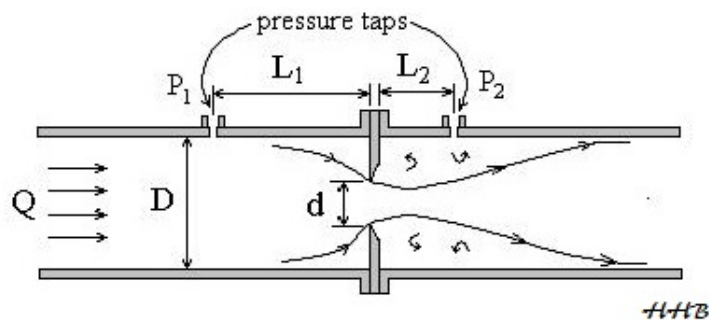
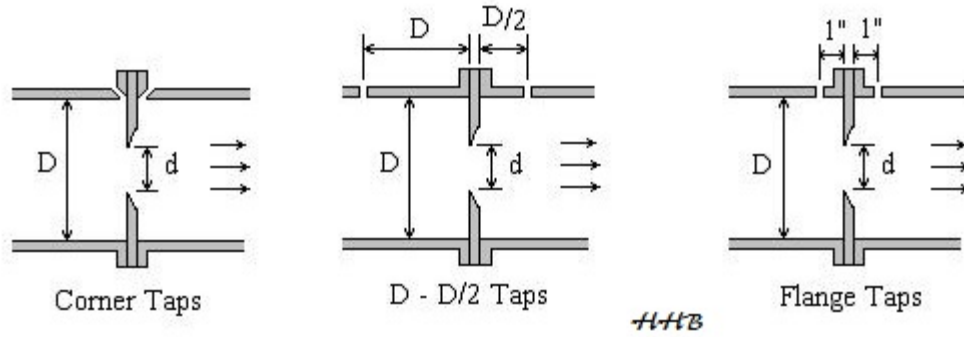

Figure 2. Orifice Meter Parameters
Figure 3. ISO standard orifice meter pressure tap locations
**Orifice Meter:** The orifice meter is the simplest of the three differential pressure flow meters. It consists of a circular plate with a hole in the middle, typically held in place between pipe flanges, as shown in Figure 2.
The preferred locations of the pressure taps for an orifice meter have undergone change over time. Previously the downstream pressure tap was preferentially located at the vena-contracta, the minimum jet area, which occurs downstream of the orifice plate, as shown in Figure 2. For a vena-contracta tap, the tap location depends on the orifice hole size. This link between the tap location and the orifice size made it difficult to change orifice plates with different hole sizes in a given meter in order to alter the range of measurement. In 1991, the ISO-5167 international standard came out, in which three types of standardized differential measuring pressure taps were identified for orifice meters, as illustrated in Figure 3 below. In ISO-5167, the distance of the pressure taps from the orifice plate is specified as a fixed distance or as a function of the pipe diameter, rather than the orifice diameter as shown in Figure 3.
In ISO-5167, an equation for the orifice coefficient,  $C_o$ , is given as a function of  $\beta$ , Reynolds Number, and  $L_1$  &  $L_2$ , the distances of the pressure taps from the orifice plate, as shown in Figures 2 and 3. This equation, given in the next paragraph can be used for an orifice meter with any of the three standard pressure tap configurations.
As shown in Figure 3:  $L_1 = L_2 = 0$  for corner taps;  $L_1 = L_2 = 1$  inch for flange taps; and  $L_1 = D$  &  $L_2 = D/2$  for  $D - D/2$  taps. Equation (8) is not intended for use with any other arbitrary values for  $L_1$  and  $L_2$ .